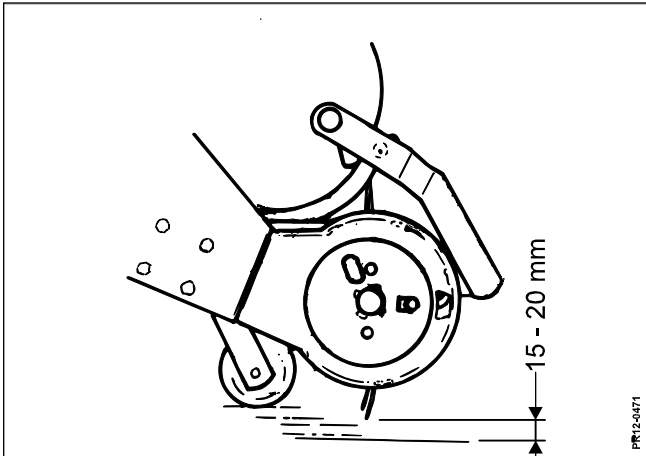

Fig. 4-1
**Fig. 4-1** The pick-up is equipped with support rollers made of steel which are adjustable in height. You should keep the pick-up at such a height that the tines do not hit the ground and leave earth in the crop and can pick up the grass without waste.